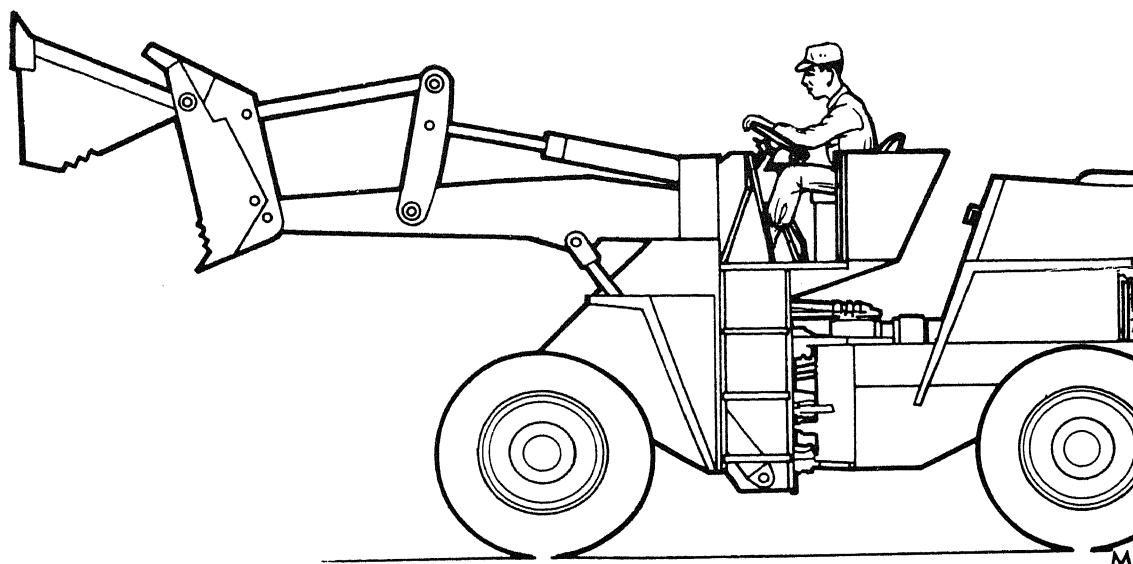

Figure 2-11. Clam fully open.
(1) Move the boom control lever to raise the bucket off the ground. Move the bucket control lever to position the clam in the fully open position as shown in figure 2-11.